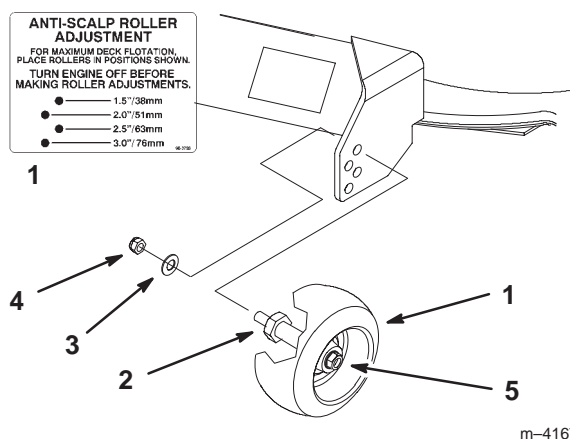

Figure 22
2. After adjusting height-of-cut remove nut and washer while holding stud with wrench (Fig. 22).
Note: Do not remove the wheel nut and washer (Fig. 22).
3. Select hole so gage wheel is positioned to the nearest corresponding height-of-cut desired (Fig. 22).
4. Reinstall the flange nut and spring disk. Torque to 40–45 ft-lb (54.2–61.0 N•m) (Fig. 22).